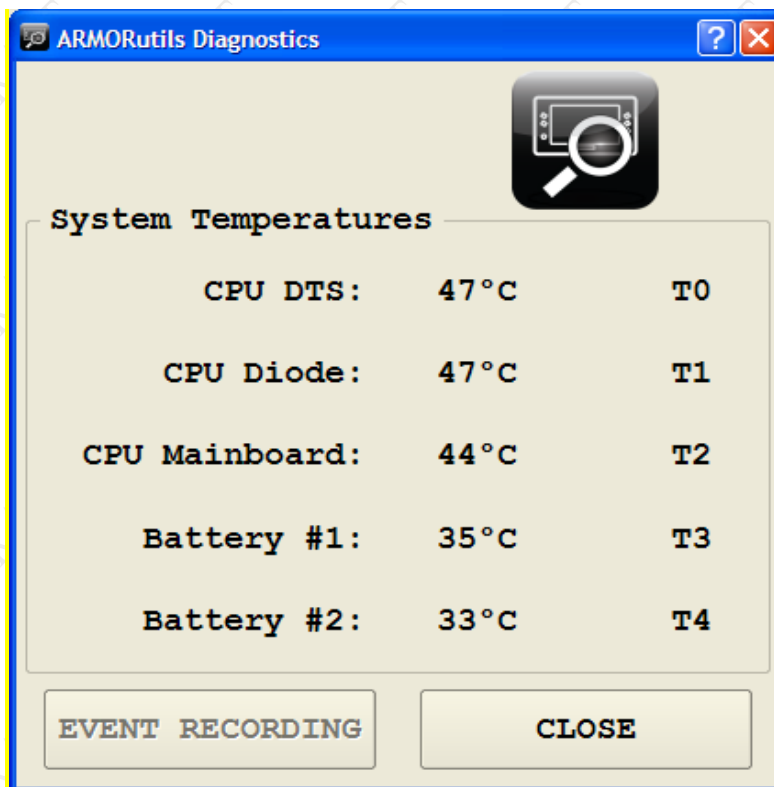

Figure 75. ARMORutils Diagnostics Dialog Window
The micro SD card socket is located inside the rear compartment, as shown in Figure 75. Follow the procedure in Table 24 to install the card.
4.	Carefully pry up the cooling register at the slot provided (Figure 75) and remove.